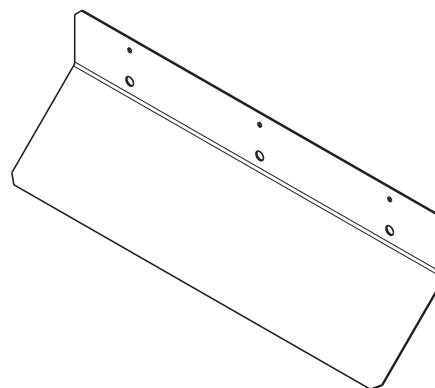
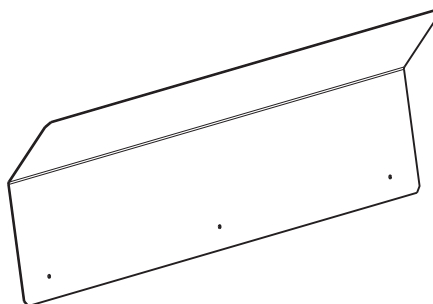

Fig. 68 — Air Baffle (14-in.)
Fig. 69 — Air Baffle (30-in.)
6. Install inlet baffle on the access panel with the screw(s) provided. See Fig. 68 for 14-in baffle and Fig. 69 for 30-in baffle. Attach 14-in baffle from the outside of the access panel. The 30-in baffle should be installed from inside of the access panel. Secure with three screws.